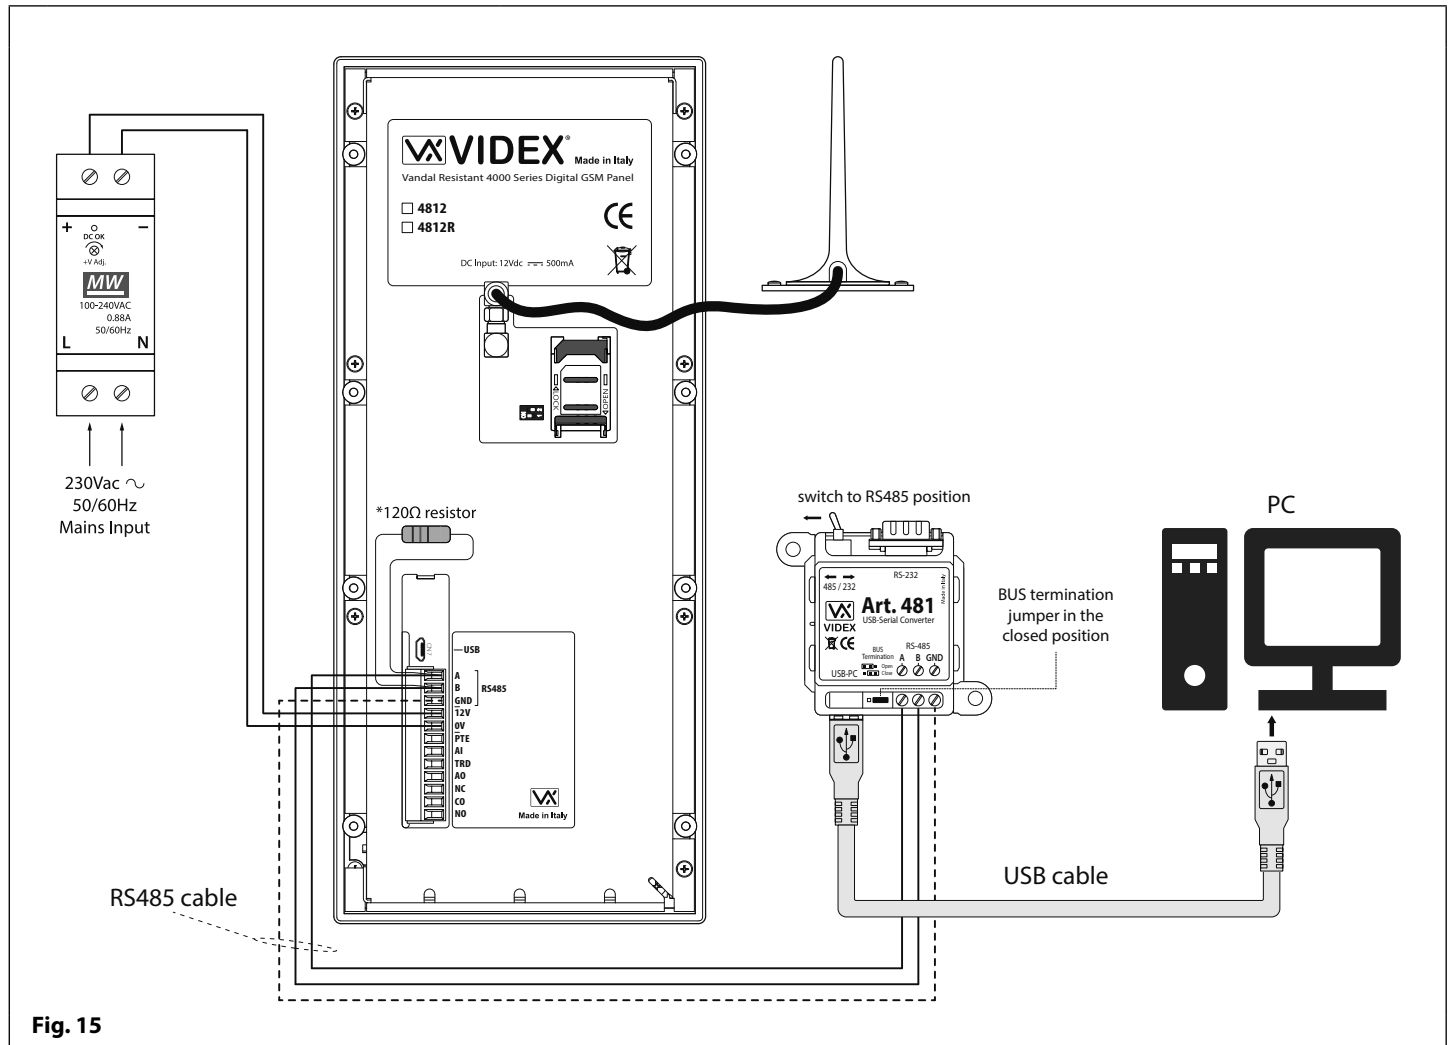

Fig. 15
The digital GSM intercom can also be connected using an RS485 bus connection via an RS485 to USB converter (Art.481) as shown in **Fig.15**. This method of connection, like option 1, can be used for programming and setup of the digital GSM, but can also be used in instances where a permanent connection to a PC is required for monitoring purposes and downloading event logs. When connected in this way the digital GSM can only be connected as a 'one-to-one' bus connection to the PC, another GSM module **cannot** be connected on the same RS485 bus to the PC.
*For end of line termination a 120 Ohm resistor must be fitted across the RS485 terminals A and B, as shown in **Fig.15**.